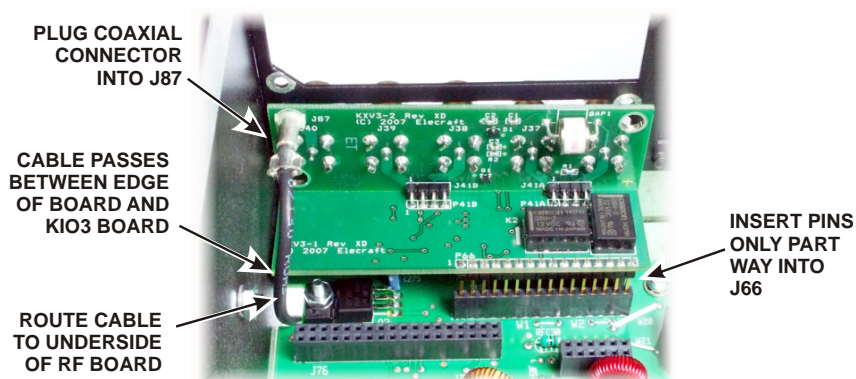

Figure 7. Mounting KXV3 Board.
- Fit the TMP coaxial connector onto J87 on the KXV3 board assembly (see Figure 7).
- Thread the square connector on the TMP cable through the gap between Q3 and the side of the RF board, then plug the KXV3 board assembly into J66 on the RF board with the four BNC connectors facing out through the rear panel (see Figure 7). The pins will just clear the top of J66 when the BNC connectors are up against the top of the opening in the rear panel.